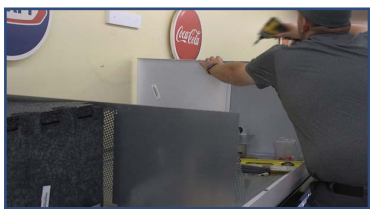

Fig. 83 Extend to wall and secure
5. Attach the support struts to the back of the panels. Install the support brackets near the rear wall of the case to provide room to remove the junction box cover and to avoid the CDU suction line on 2 door cases (Fig. 83).